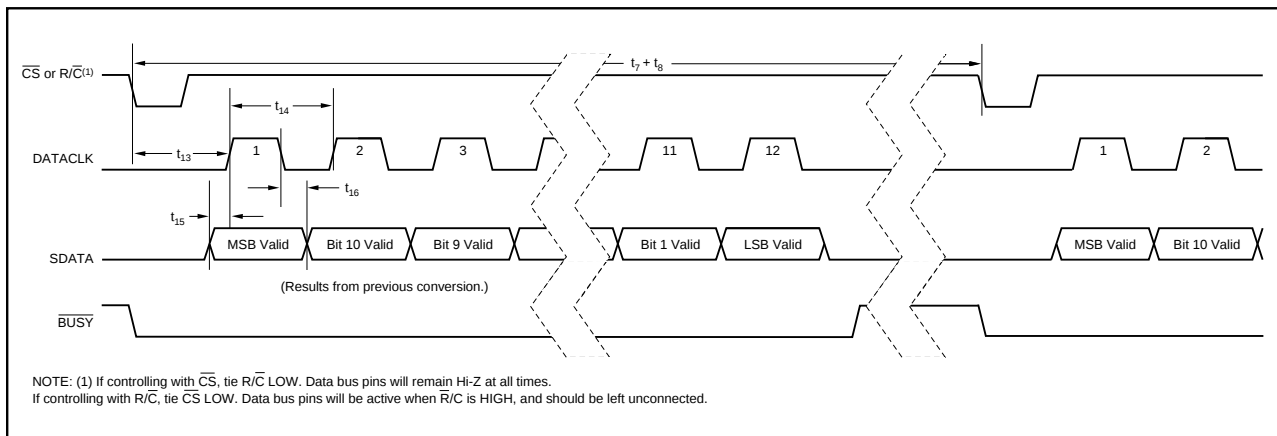

FIGURE 4. Serial Data Timing Using Internal Data Clock (TAG tied LOW).
NOTE: (1) See Figures 4, 5, and 6 for constraints on data valid from conversion "n-1".
To use the internal data clock, tie $EXT/\overline{INT}$ (pin 8) LOW. The combination of $R/\overline{C}$ (pin 22) and $\overline{CS}$ (pin 23) LOW will initiate conversion 'n' and activate the internal data clock (typically 900kHz clock rate). The ADS7806 will output 12 bits of valid data, MSB first, from conversion 'n-1' on SDATA (pin 19), synchronized to 12 clock pulses output on DATACLK (pin 18). The data will be valid on both the rising and falling edges of the internal data clock. The rising edge of $\overline{BUSY}$ (pin 24) can be used to latch the data. After the 12th clock pulse, DATACLK will remain LOW until the next conversion is initiated, while SDATA will go to whatever logic level was input on TAG (pin 20) during the first clock pulse. Refer to Table VI and Figure 4.